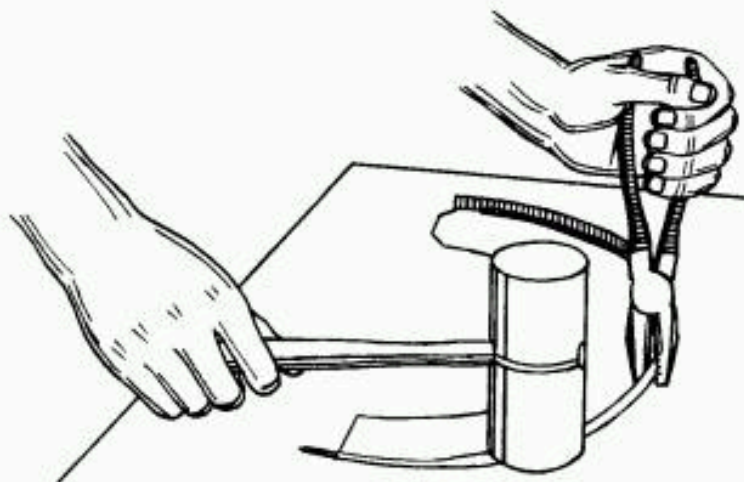

FIG. 6 BENDING METAL OVER WIRE
5. Start the fold over the wire the entire length of the edge, using a mallet and pliers. (Fig. 6).